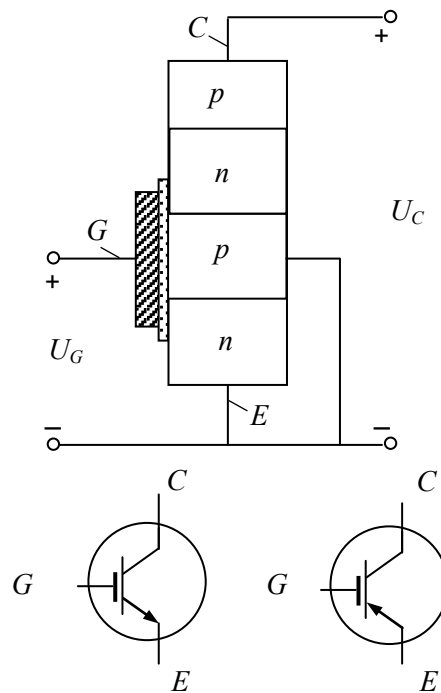

Fig. 1.44
**Structure.** Fig. 1.44 displays the structure of IGBT that is quite similar to that of enhanced-mode MOSFET. The principal difference is the presence of  $p$  layer that forms the collector of the IGBT. This layer arranges the  $pn$  junction, which injects minority carriers. The circuit symbols of  $n$ -channel and  $p$ -channel IGBTs are also presented. Their leads are the collector, the emitter, and the gate.